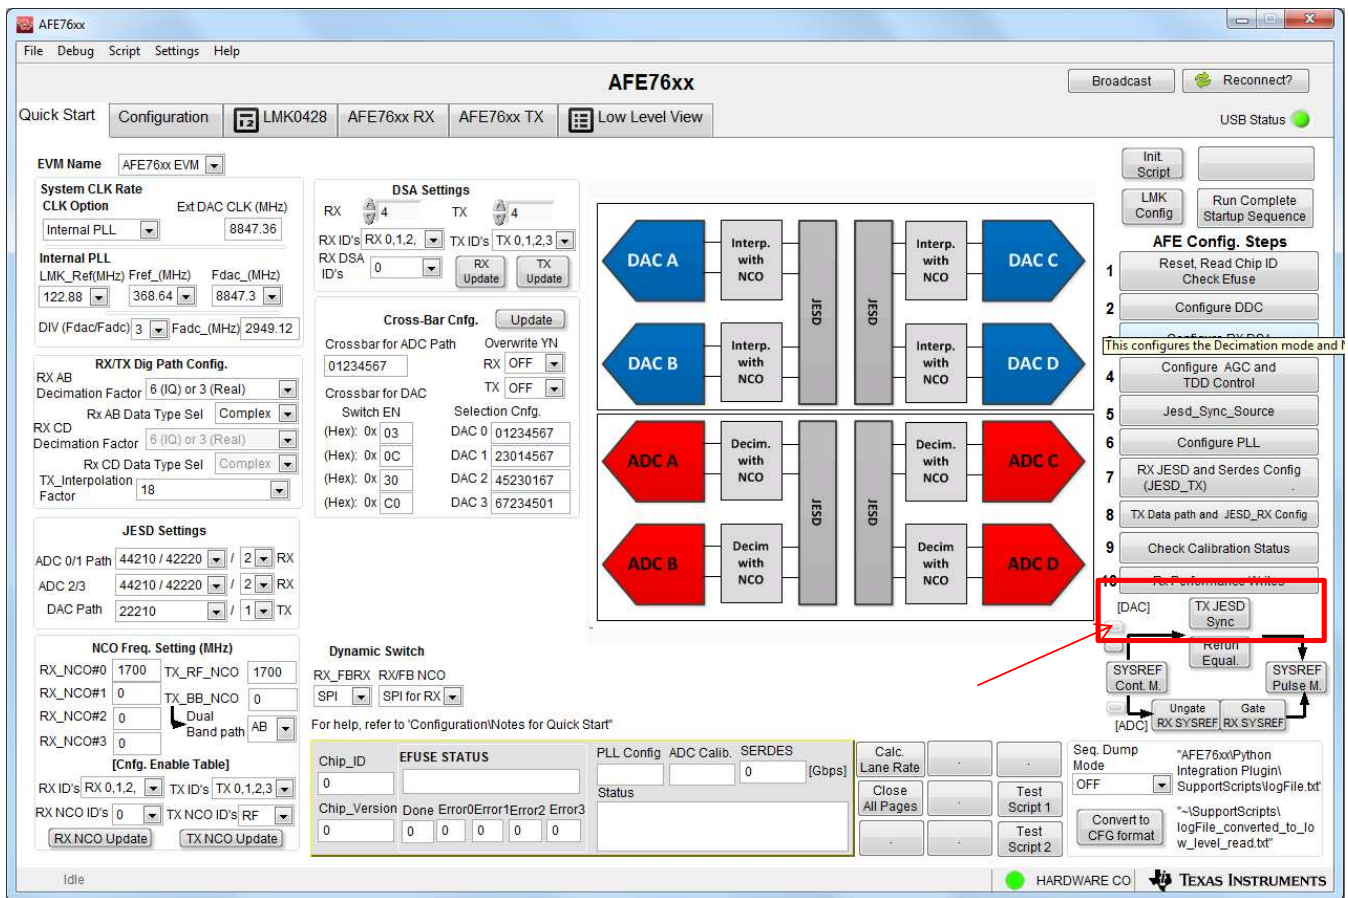

Figure 16. JESD204B DAC Resync Process
- If D1 is lit and D2 is not flashing, go to the main start-up page of the AFE76xx GUI, and click on the TX JESD Sync button (see Figure 16). This manually resets the DAC JESD204B logic to force a re-handshake of the JESD204B link.